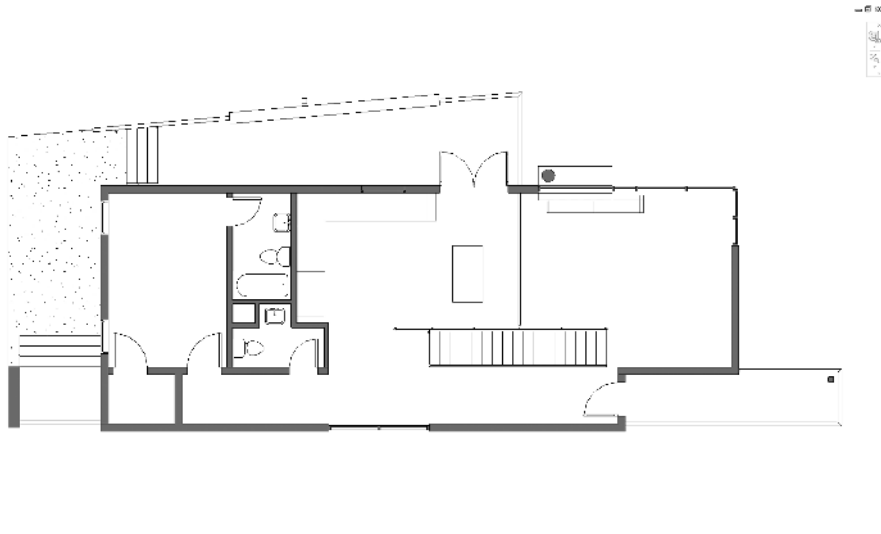

Figure 1.24 Screen-captured image with thin lines
7. Choose Layer > Flatten Image And File > Save. Save the image as Level2thin.png. The final image is shown in Figure 1.24.